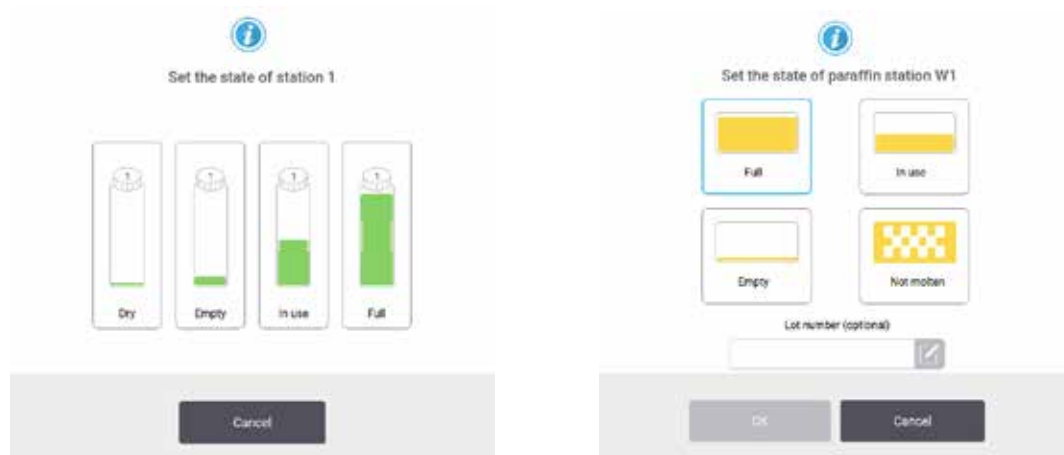

Fig. 73
- Tap the appropriate icon on the dialog that appears (→ Fig. 73).